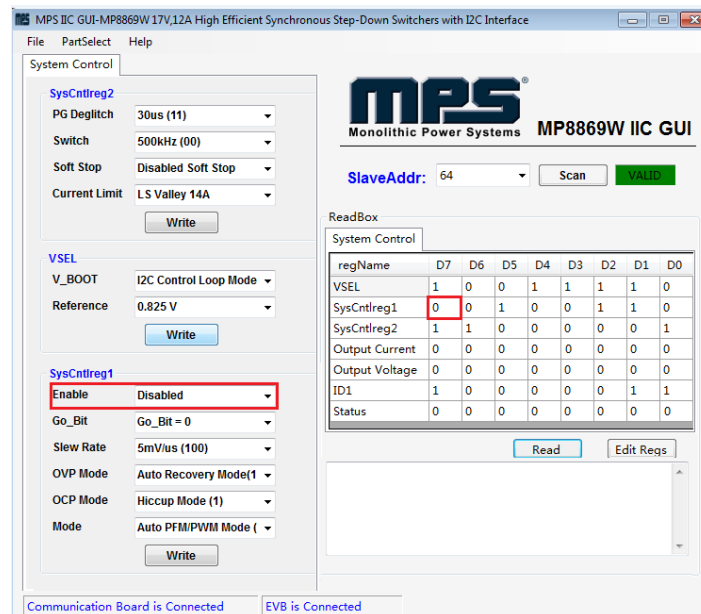

Figure 10: Refer to Datasheet to Translate 0s and 1s
5. Click the “Read All” button to update values. The changed information will appear on the right side (see Figure 10).